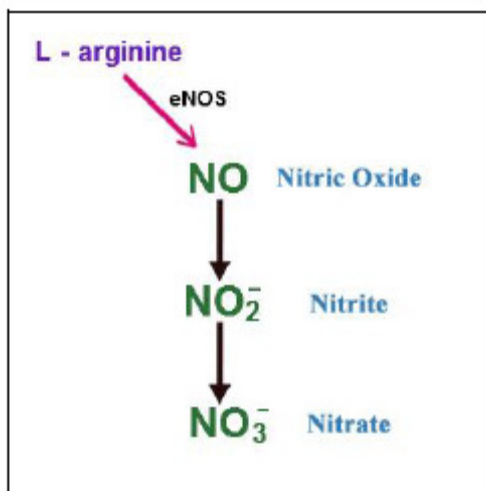

Figure 1: Oxidation of L-arginine to nitrate.
Reactive nitrogen intermediates (RNI) and reactive oxygen intermediates (ROI) work together to damage cells and have been implicated in the pathogenesis of several disease states. RNI are a family of molecules derived from nitric oxide (NO) and superoxide anion (O_2^-), produced via nitric oxide synthase (NOS) and NADPH oxidase, respectively. Nitric oxide is an established mediator in vascular diseases, diabetes, renal ischemia, atherosclerosis, inflammatory diseases, and cancer. However, because of its extremely short half life, direct quantitation of NO production remains challenging and unsuitable for most detection systems. Therefore, the common method for measurement of total NO has become the sum of its final oxidized products, nitrite (NO_2^-) and nitrate (NO_3^-) (Figure 1).